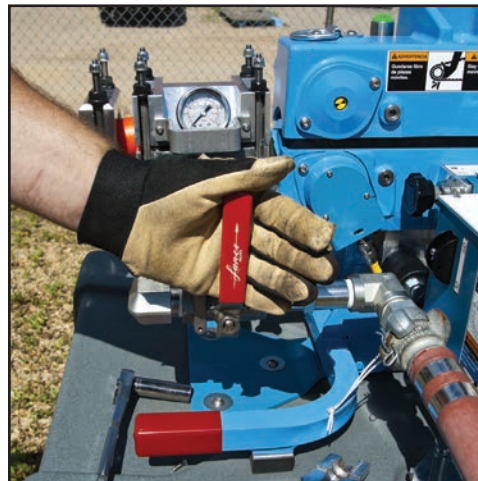

Figure 42. Close Air Control Valve
- b. Turn the Air Control Valve handle to the 12 o'clock position and turn on the air from the compressor (Figure 42).